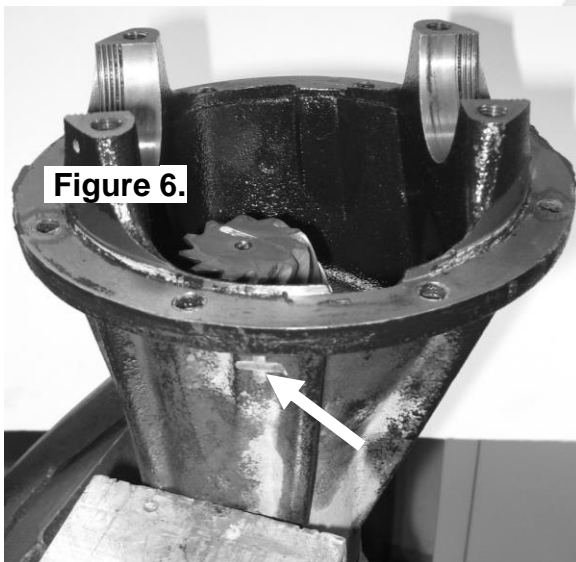

Figure 6.
- Mark a spot on the right hand side (opposite the ring gear) toward the top of the differential housing that is in an area well clear of the differential, the ring gear, and any other obstructions that could snag the seal housing tube. (Fig.6.)